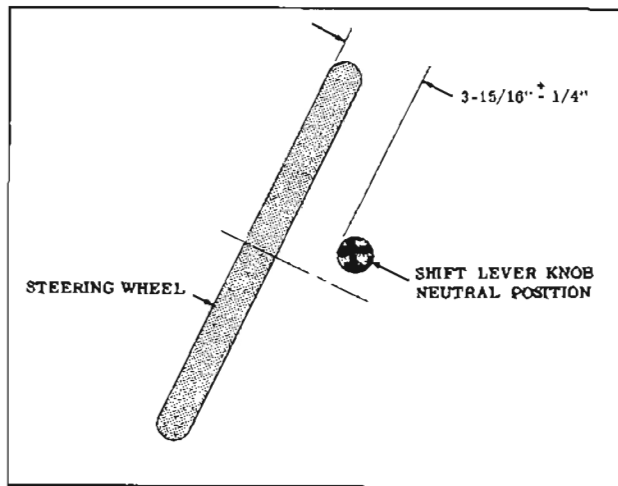

Fig. 7-2 Position of Shift Lever
2. With the transmission selector lever "C" rearward against its stop, adjust clevis "D" so that the clevis pin will easily enter the hole in lever "E" while holding the cross shift lever rearward to take up the lash. Then remove the clevis pin and lengthen the rod by five full turns of the clevis. This should bring the hand shift knob to within $3-15/16" \pm 1/4"$ of the top of the steering wheel. (Fig. 7-2)